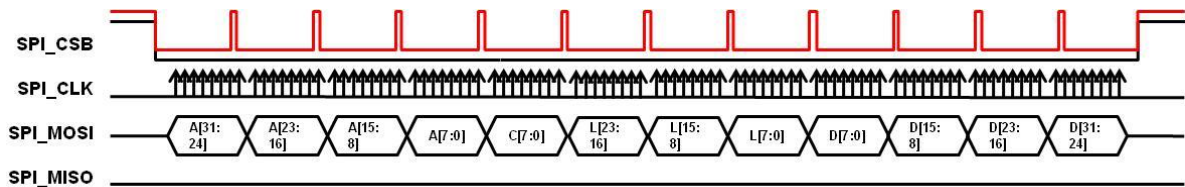

Figure 10: SPI Signals for Write Request
Note that the payload data is transmitted MSB first and little-big endian system (see Figure 10).
- Note that the payload data is transmitted MSB first and little-big endian system (see Figure 10).